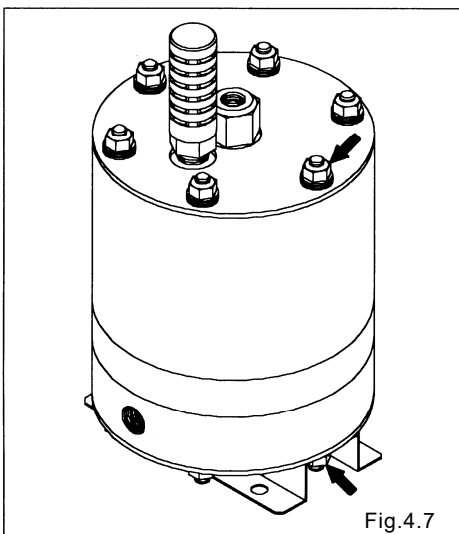

Fig.4.7
- Torque nuts (tie rods) diagonally for uniform force. (Fig.4.7 shows the AD-10TT.)